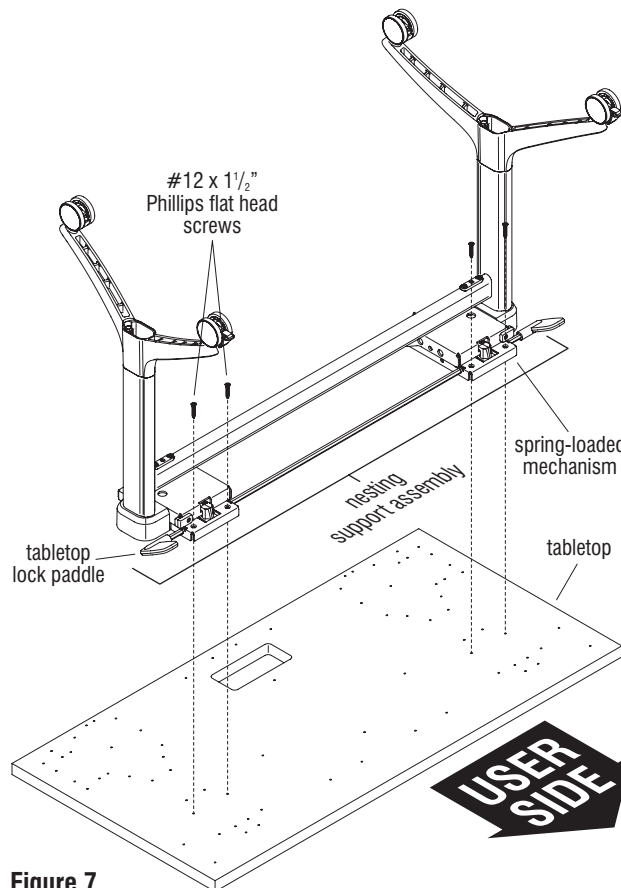

Figure 7
16. Carefully place the tabletop upside down on a soft, protective surface (Figure 7).
18. Take note that the "non-user side" of the tabletop has a pilot hole pattern for the modesty panel near the back edge, at each corner. Carefully position the nesting support assembly onto the tabletop with the tabletop lock paddles and wider spread of the legs oriented to be facing the user side of the table, as illustrated (Figure 7 & Detail K).
19. Align the two mounting holes on the front of each spring-loaded mechanism of the nesting support assembly to the corresponding pre-drilled holes at the underside of the tabletop, then secure into each pre-drilled hole a #12 x 1 1/2" Phillips flat head screw. Do not over-tighten (Figure 7 & Detail L).